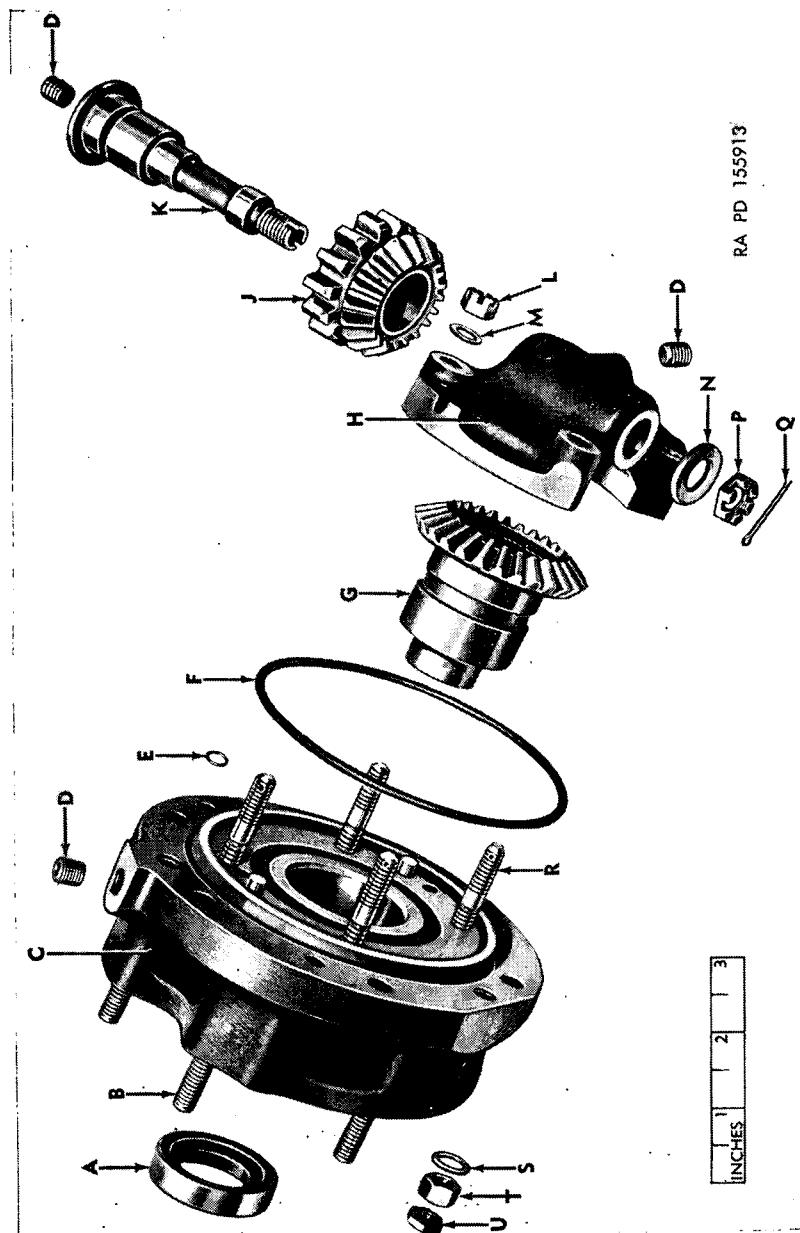

Figure 43. Generator drive assembly—exploded view.
c. Generator Drive Assembly (fig. 43).
(1) Disassembly.
- (a) Remove the cotter pin, slotted nut, and plain washer from the generator-drive bevel and spur gear shaft (K). Tap the shaft gently with a soft hammer and remove the shaft and the generator-drive bevel and spur gear (J).